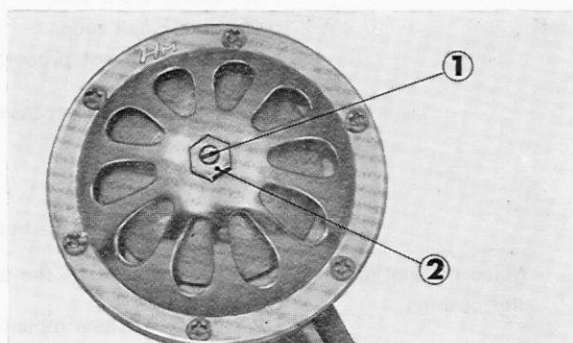

Fig. 3-7 ① Screw ② Nut
2. Insufficient loudness: adjust the current control screw on back of the horn. (Fig. 3-7)